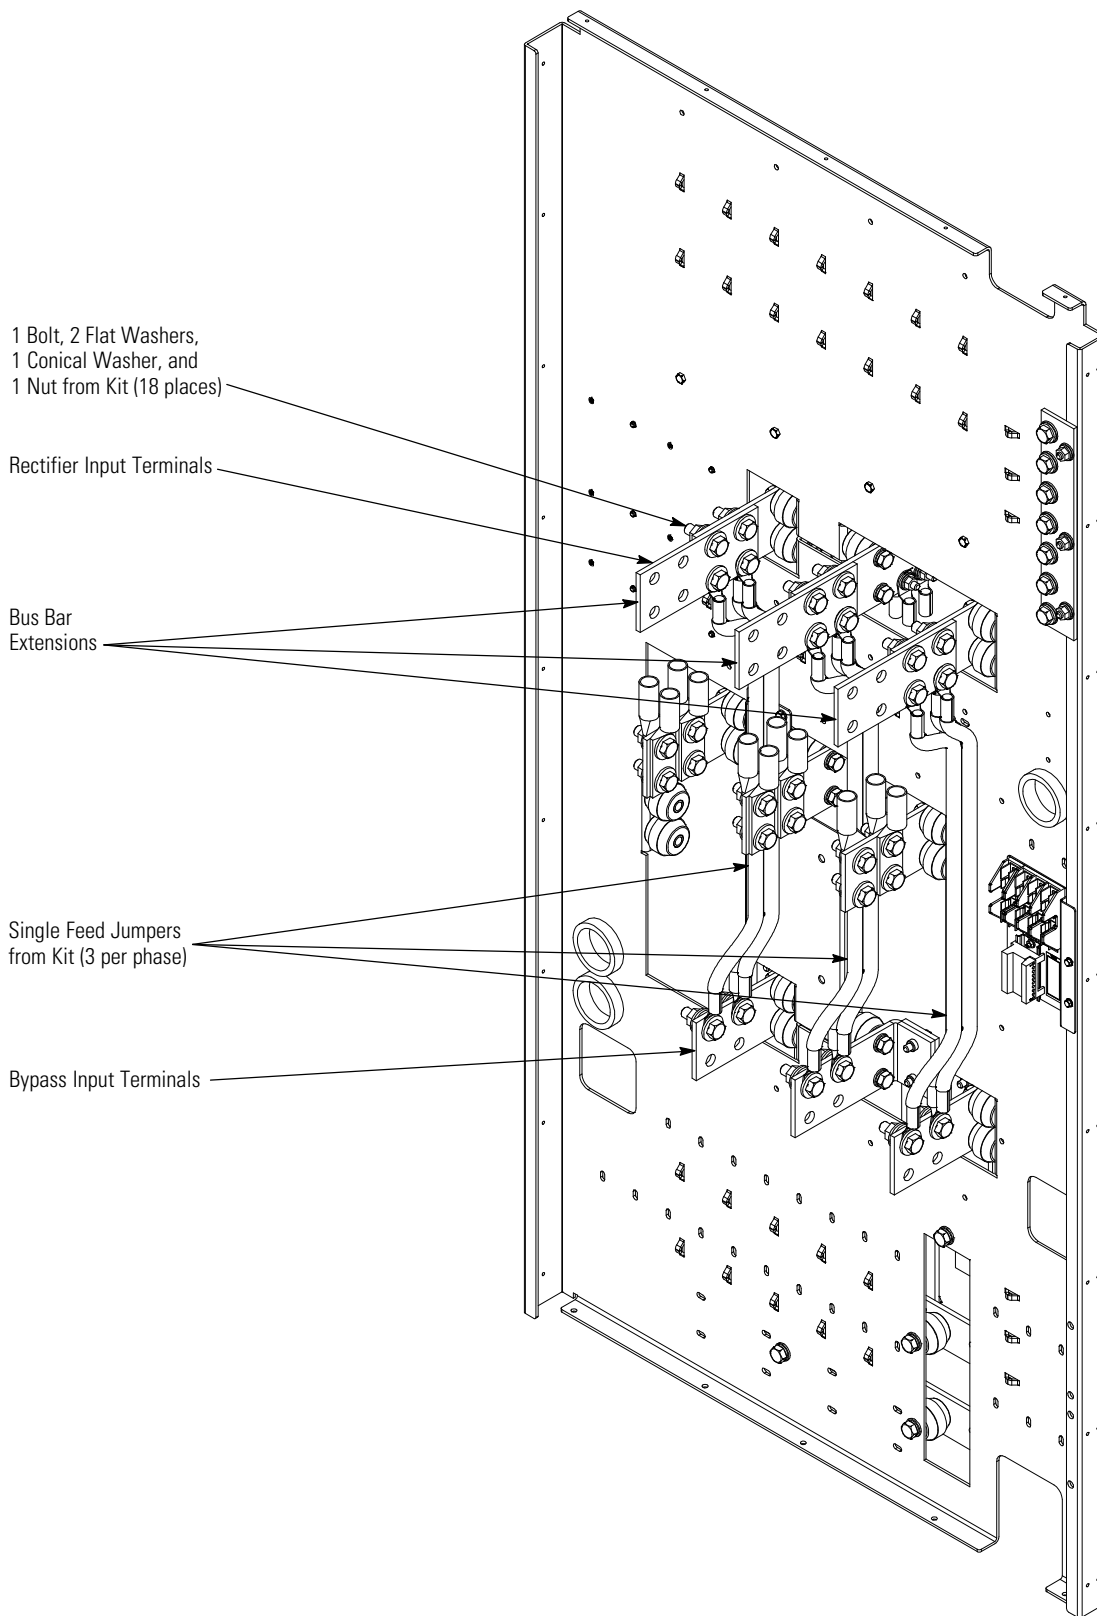

Figure 1. 9395 450–550 kVA UPS Single Feed Kit
3. Using hardware from the single-feed kit (see Table 1), install the single-feed bus bar extensions onto the rectifier input terminals (see Figure 1). Mount the bar using the two top rear holes. Tighten the bolts to the torque values in Table 2.
4. Using hardware from the single-feed kit (see Table 1), install the single-feed jumper cables from the kit between the rectifier input terminals and the input bypass input terminals (see Figure 1). Use the two bottom rear holes. Tighten the bolts to the torque values listed in Table 2.